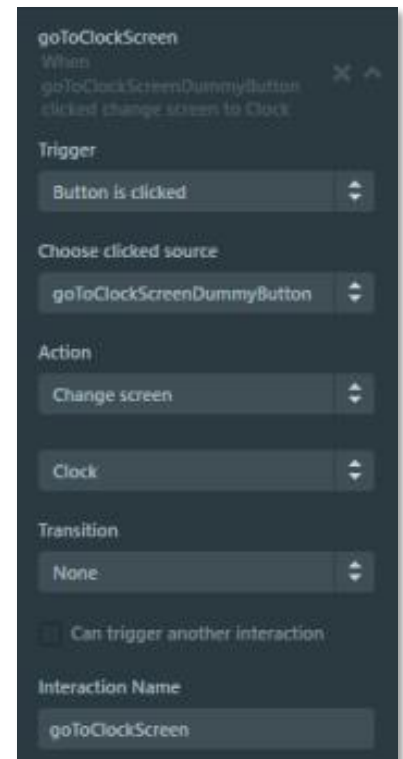

Figure 42
4. For each dummy button created, an interaction was created to link the dummy button to a screen transition. For example, see `goToClockScreen` under the list of interactions for the `MainMenu` screen. As shown in Figure 42, `goToClockScreen` uses `goToClockScreenDummyButton` to set a transition to the `Clock` screen.
Note that the function names are derived from the screen name plus the type of screen transition defined for it: `goto<name of screen>Screen<screen transition type>`. For example, for the interaction shown in Figure 42, the function `gotoClockScreenNoTransition` was generated. These functions will be called inside the virtual function `handleEnterButton()` in the next step **Note:** The function names are *not* based on the name of the interaction they are derived from, despite the